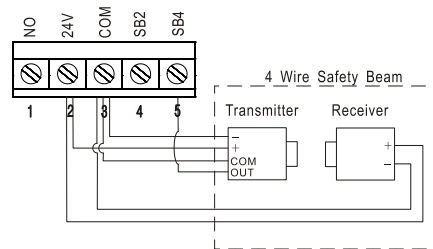

Fig. 13
- b. 3rd party normally open 24VDC 4 wire Safety Beams (Fig.13)